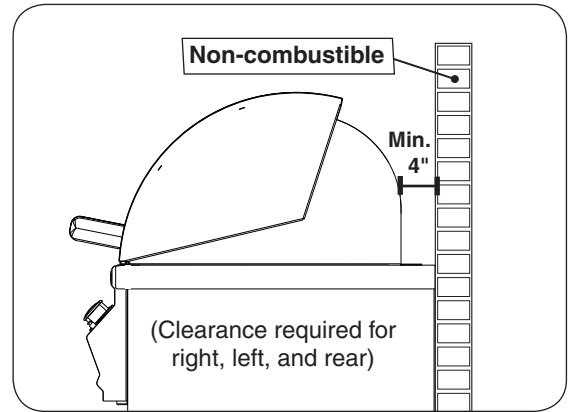

Fig. 10-1 Clearance 'A' Diagram
A. Clearance between grill and strictly non-combustible wall (i.e. brick wall, see Fig. 10-1)